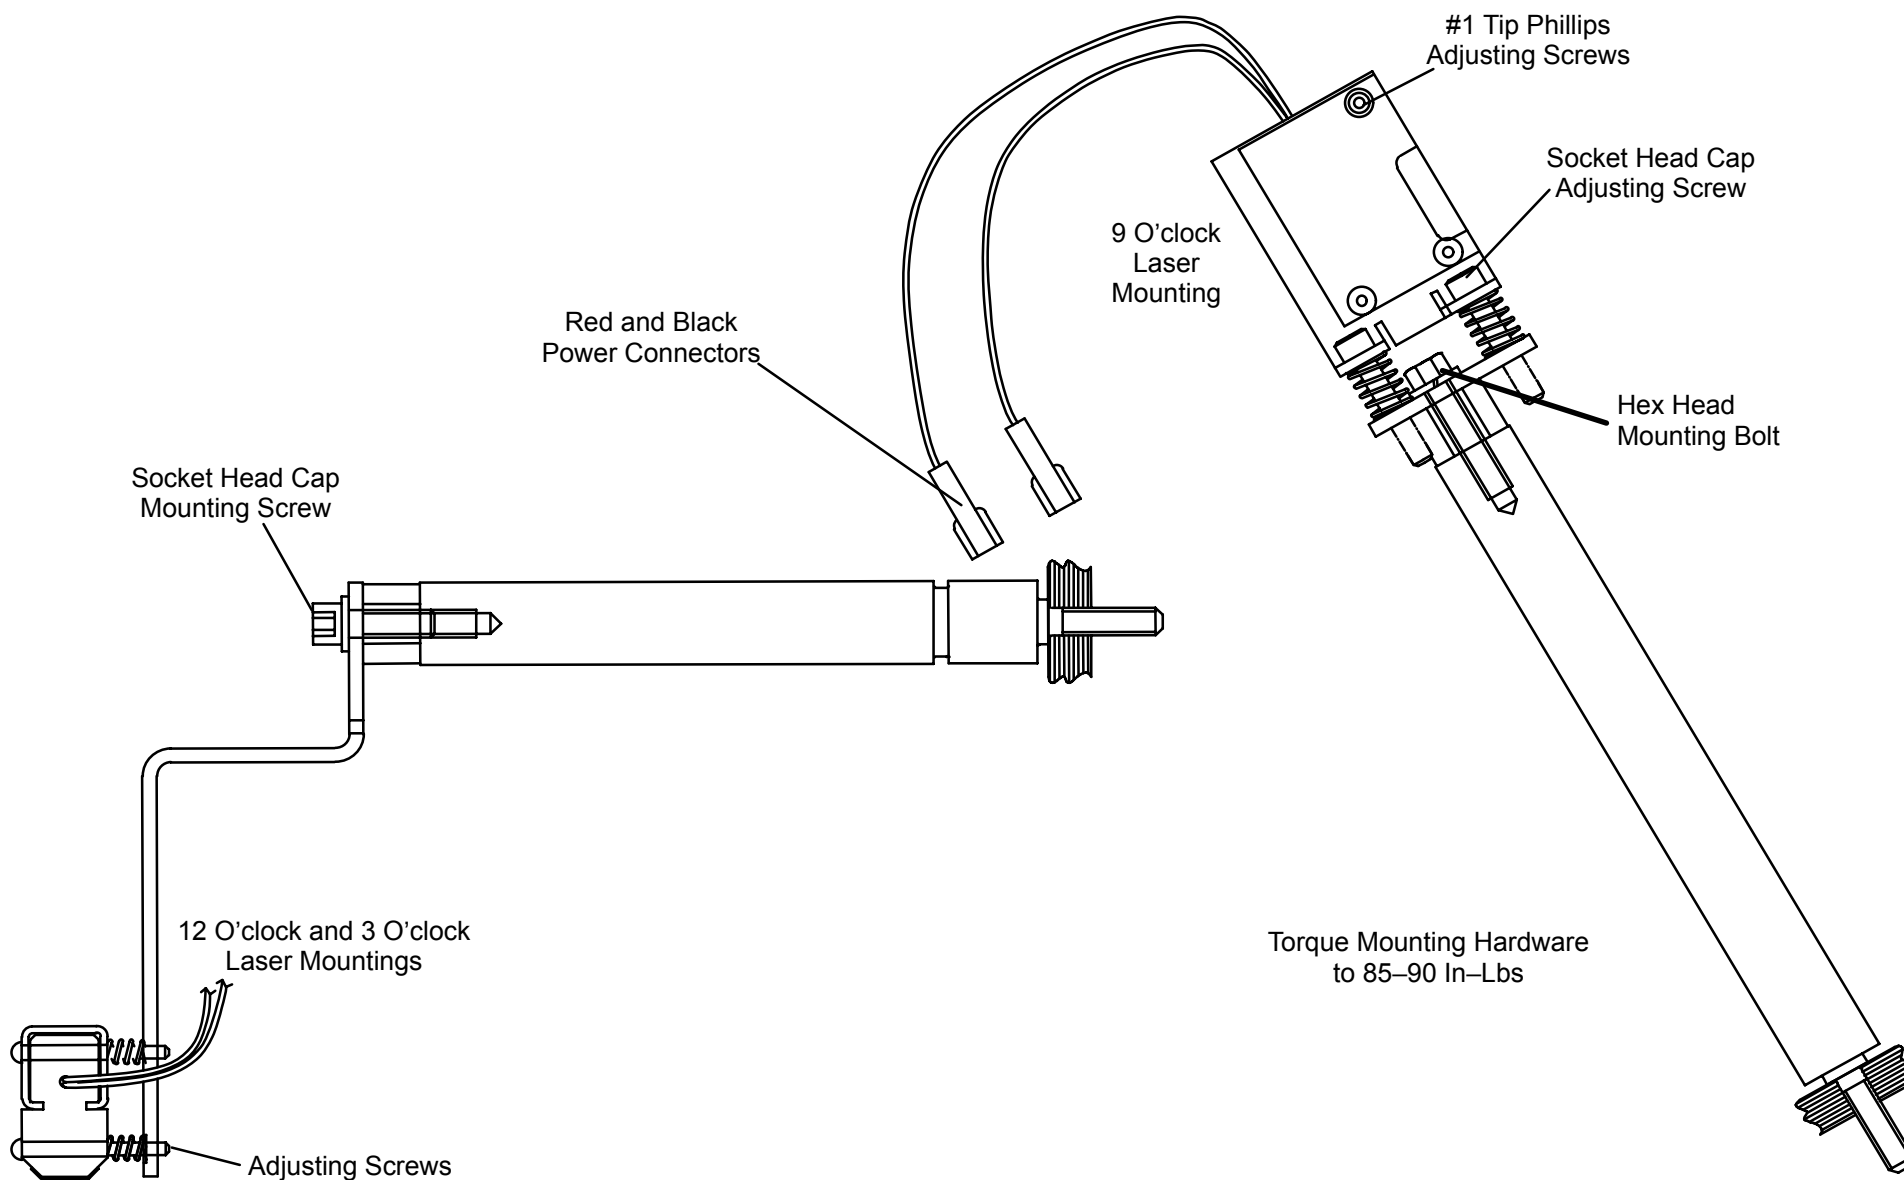

FIGURE 303 Laser Assembly Mounting – “Z” and “L” Models
5. Carefully remove the hardware securing the Laser Assembly to the Mounting Shaft. Remove the Laser Assembly from the Gantry. See Figure 303.